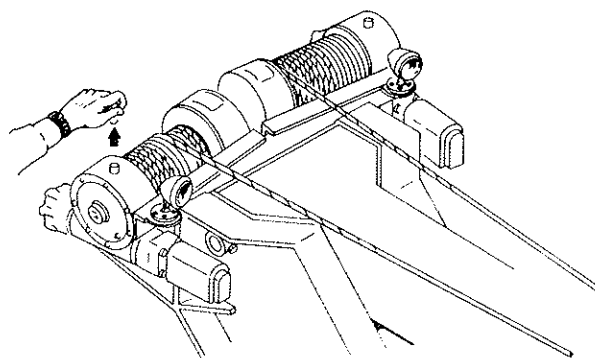

FIG. 2.5
2.8 Before operating your CENTURY Wrecker, remove shipping plugs from the vent caps of each winch. (FIG. 2.5)